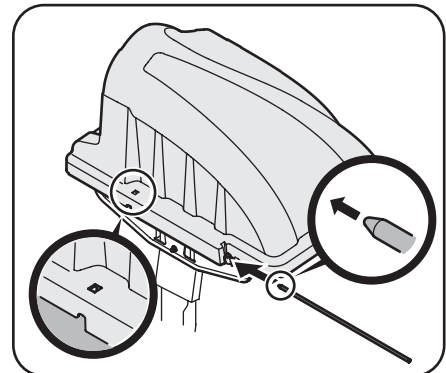

Figure 4-6
4. Slide the hinge pin into the hole located on the mounting tab, as shown in Figure 4-6. Use the cut-out window (See inset in Figure 4-6) to line up the hinge pin on the other side and push pin all the way in until it reaches the end-stop.